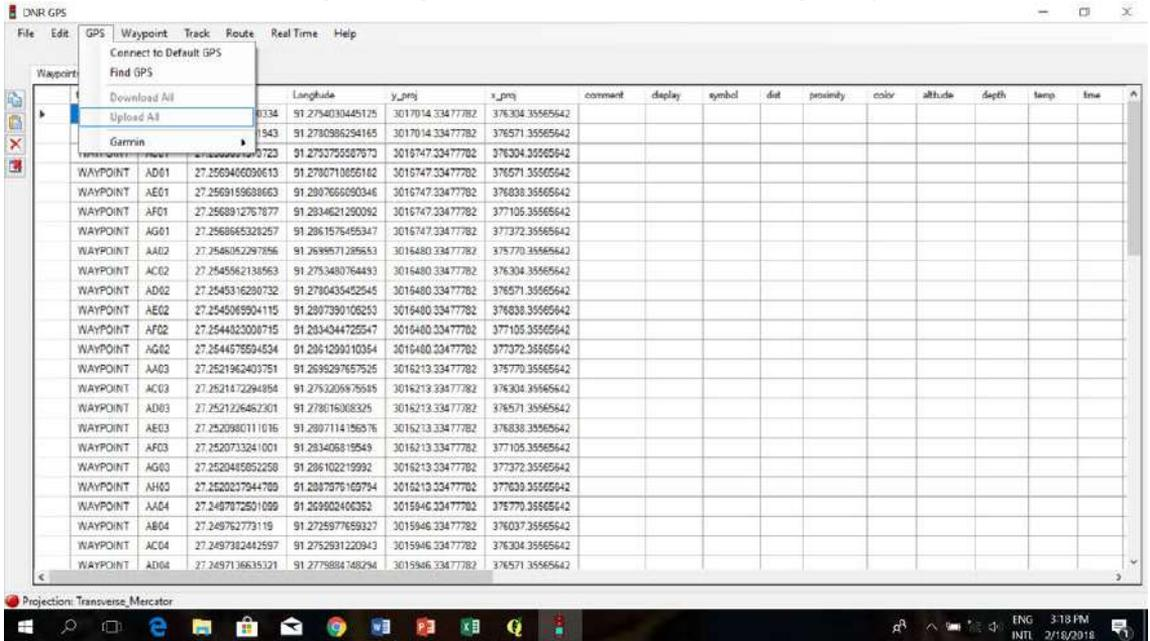

Figure 10j
- o Load the Plots along with its geo-coordinates in GPS as shown in figure 10j below